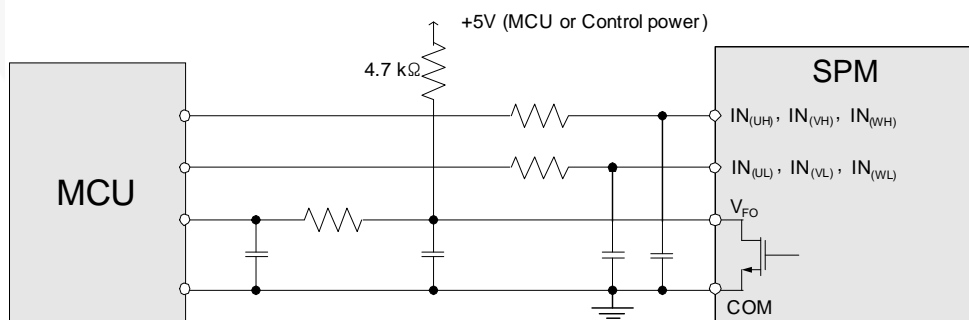

Figure 14. Recommended CPU I/O Interface Circuit
15. V_{FO} output is open-drain type. This signal line should be pulled up to the positive side of the MCU or control power supply with a resistor that makes I_{FO} up to 2 mA. Please refer to Figure 14.